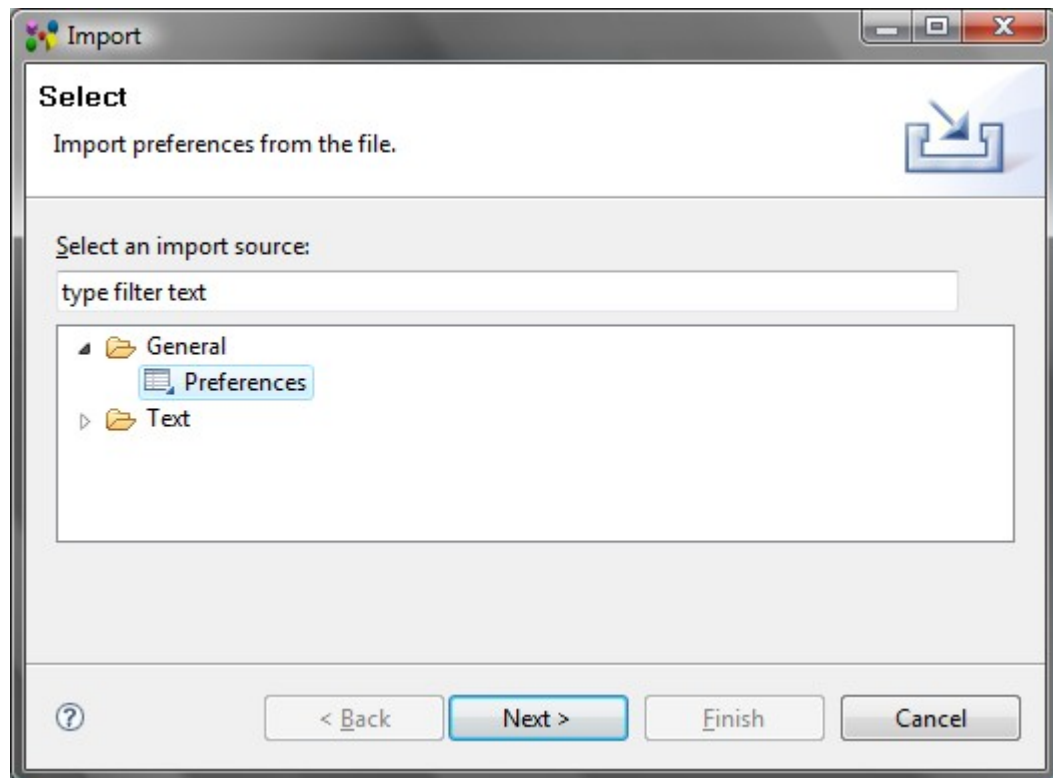

Figure 1. Import wizard page, selected General -> Preferences item
- Select **General -> Preferences** item (see Figure 1) and click **Next** button.